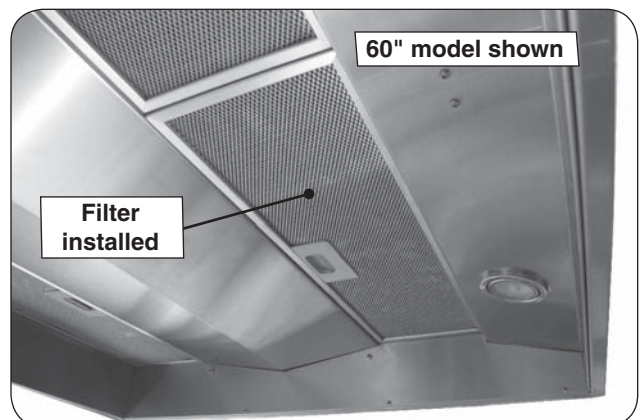

Fig. 14-4
2. Install a filter into the vent hood by first pressing in the lever, then aligning the tabs found on the filter into the notches found in the interior of the hood. The filters will secure in place. Repeat for all filters. See Fig. 14-4.